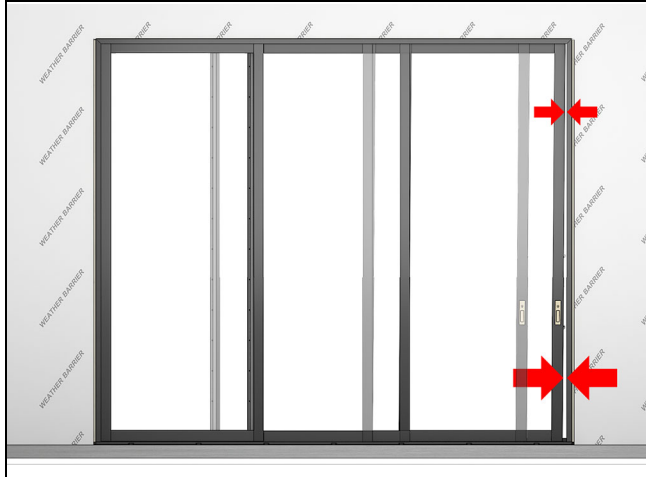

Figure 186
1. Move the operator panel toward the locking jamb until there is a slight gap. Check for an even reveal/gap between the panel and the jamb. See Figure 186.